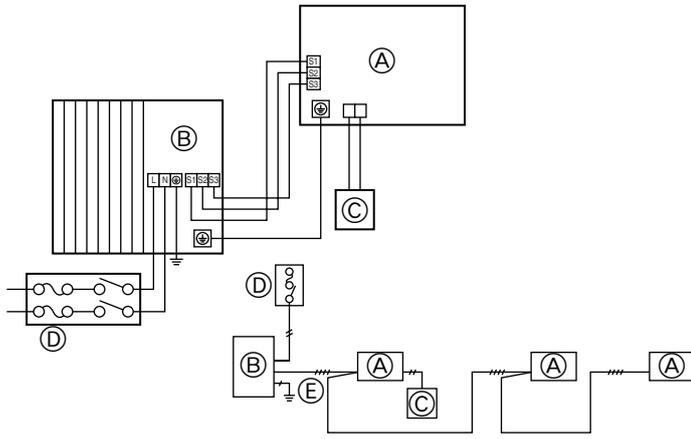

Fig. 6-1
6.1. Precautions (Fig. 6-1)
- Grounding protection with a no-fuse breaker (earth leakage breaker [ELB]) is usually installed for ④.